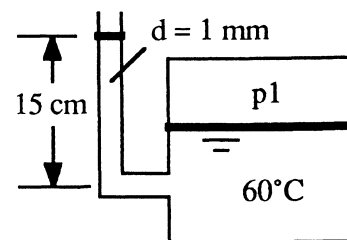

Fig. P1.65
**1.65** The system in Fig. P1.65 is used to estimate the pressure  $p_1$  in the tank by measuring the 15-cm height of liquid in the 1-mm-diameter tube. The fluid is at 60°C. Calculate the true fluid height in the tube and the percent error due to capillarity if the fluid is (a) water; and (b) mercury.